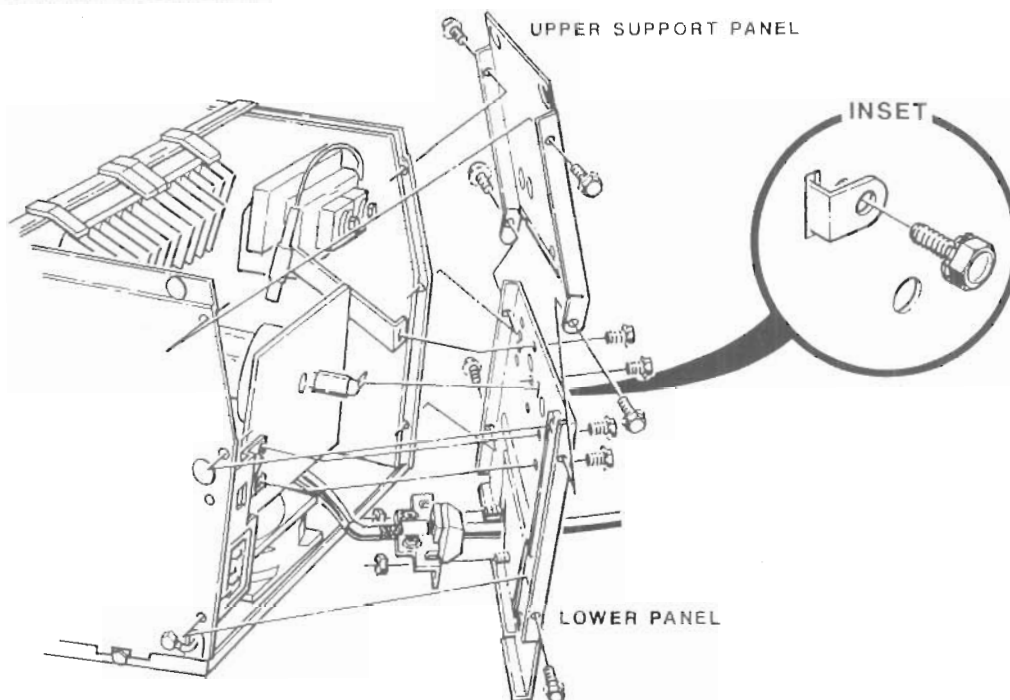

Figure 3-3. Rear Chassis Panel Removal
1. Refer to Figure 3-3 and remove the four hex screws that secure the upper panel to the chassis side panels. Remove the panel and replace the four screws into the side panels.
2. Refer to Figure 3-3 and remove the two hex screws from the bottom sides of the lower panel. Remove the screw that secures the flyback transformer bracket to the lower panel. (In some chassis, all of the high-voltage components are on the deflection board and this bracket may be different than the one shown. Adjust the procedure accordingly.) Refer to the inset of Figure 3-3 and remove the hex screw that secures the ground strap from the video board to the lower panel. Push the ground strap back through the slot in the lower panel and gently pull the lower panel away from the monitor chassis. The video cable is still held to this panel by its ground clamp.
3. Refer to Figure 3-3 and remove the two nuts that secure the video cable ground clamp to the lower panel. Slide the video cable strain relief down and out from the lower panel. It may be necessary to cut the decorative white sheet on the outside of the lower panel to allow the strain relief to slide down and away from the panel.